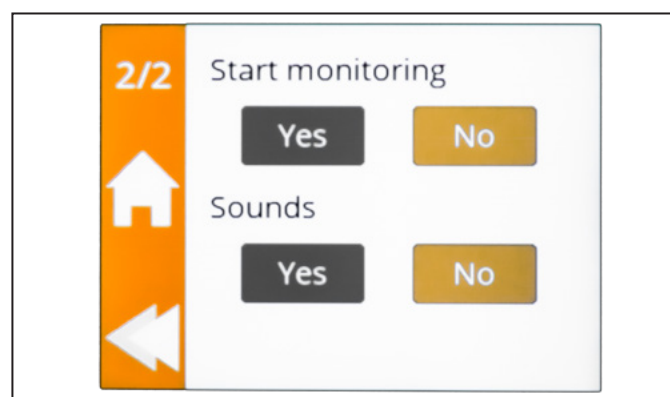

Figure 5.6 Settings menu 2/2
- Open the **Settings** menu and browse to the second page, see Figure 5.6.